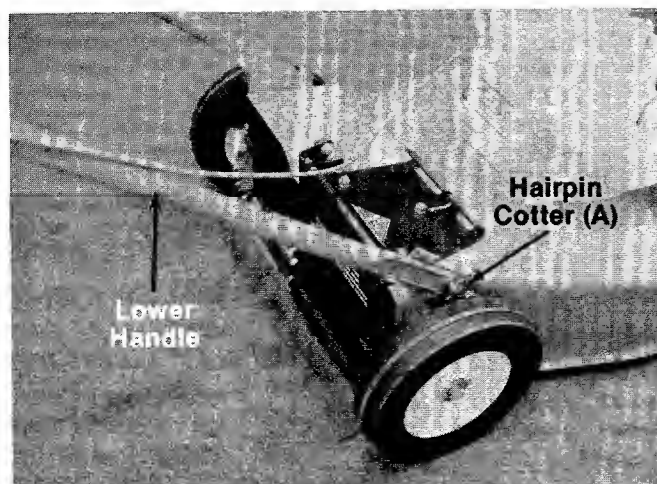

FIGURE 3.
- E (1) Hex Bolt 1/4-20 x 1.50" Long
- F (1) Hex Center Lock Nut 1/4-20 Thd.
- G (2) Cable Ties
- H (1) Ferrule Locking Ring
- I (7) Truss Head Bolts 3/8" Long
- J (7) External Lock Washers
- ← K (7) Hex Nuts #10-24 Thread
- L (2) Cotter Pins
3. Fasten lower handle in position over weld pins in handle mount brackets on deck. The hole for the engagement rod in the lower handle must be on the **left** side of the unit. Secure with hairpin cotters (A) in inner hole on weld pin. See figure 3.